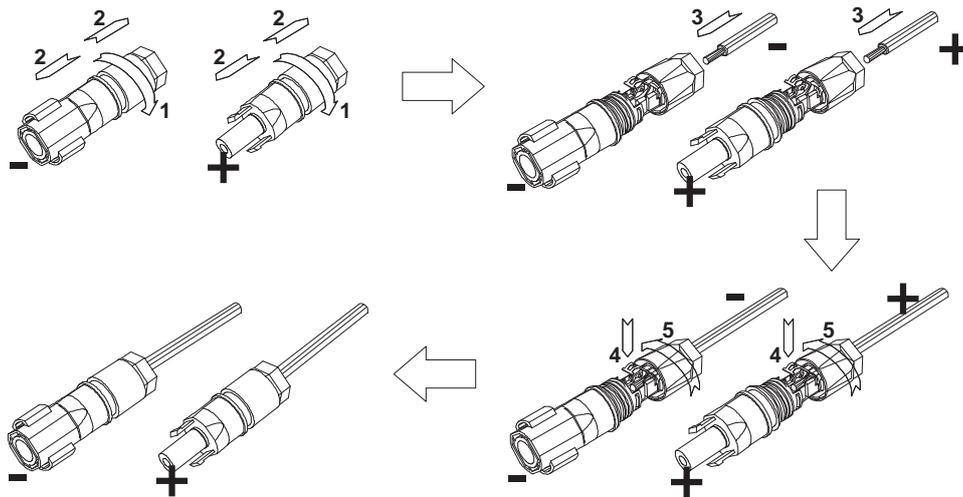

Figure 4.15 Connection between DC connector and solar modules
- (1) Lighting, short-circuit and other protection measures which meet the local electrical safety laws and regulations are needed before the AC connection;
- (2) Connect the output cables of solar modules to the DC connector as figure 4.15 shows. Loosen the nut of the connector and remove the insulation layer of the DC cable for about 15mm. Insert it into the connector and press until you hear the lock sound. Finally, tighten the nut to a torque of 2.5-3 Nm. The wiring of the negative pole is the same as that of the positive pole. Ensure the poles of the solar modules are well connected with the connectors;